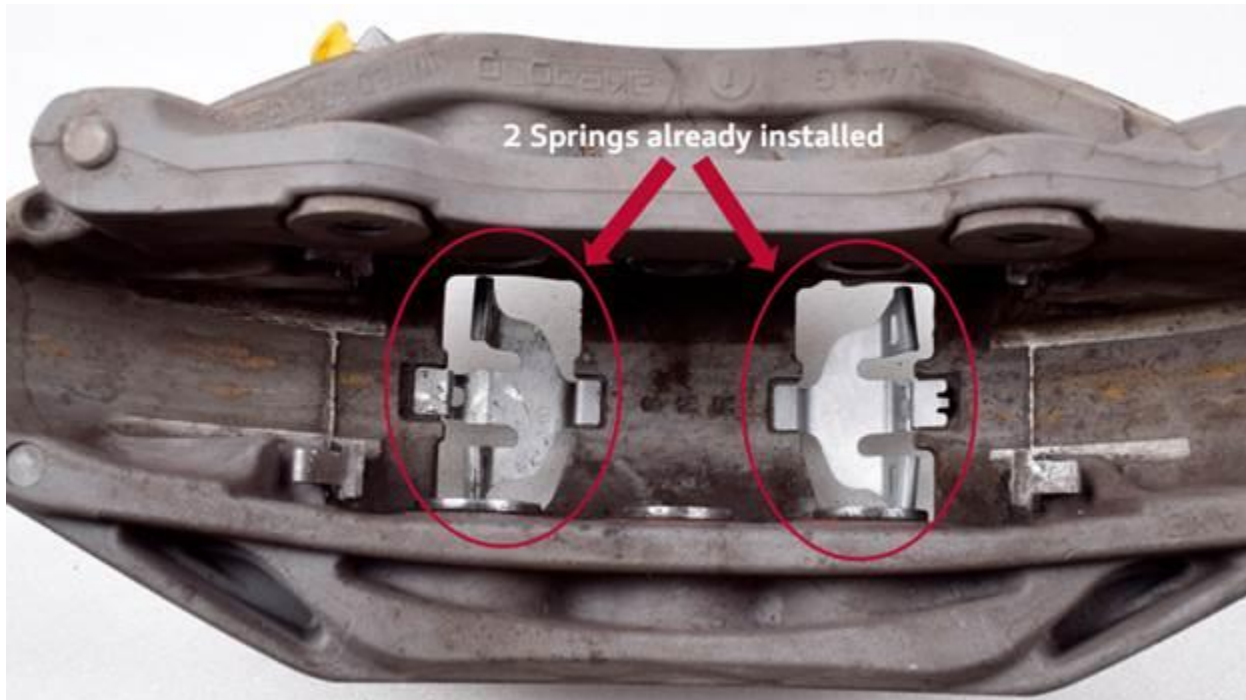
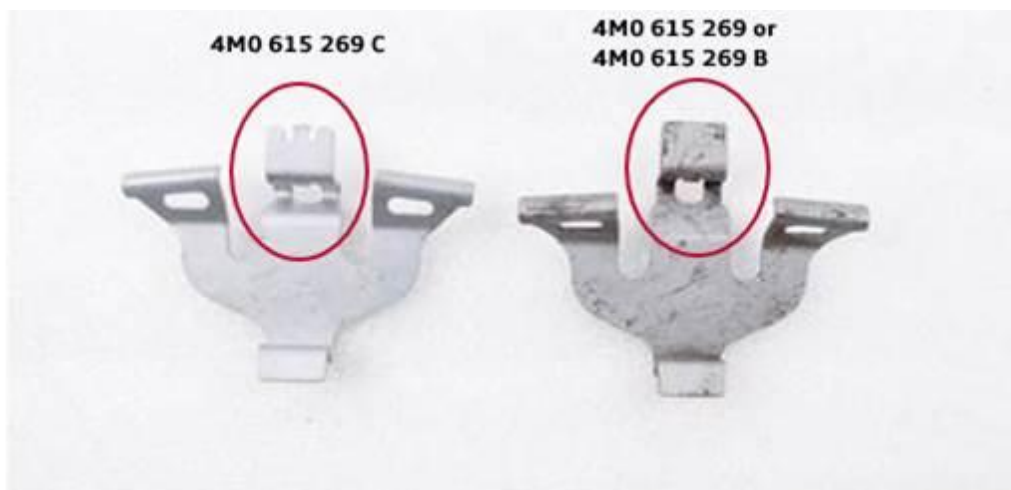

Figure 2. Spring configuration, after installation.
Figure 3. Spring designs.
2. Install one new lower spring in each caliper. Final configuration must have two springs per caliper (Figure 2). See available spring designs (Figure 3).